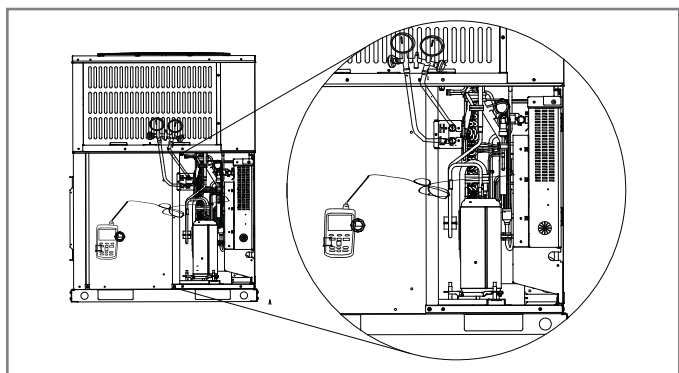

Figure 27
- ▶ Connect gauges to refrigerant bottle and unit as illustrated (Figure 27 and 28).